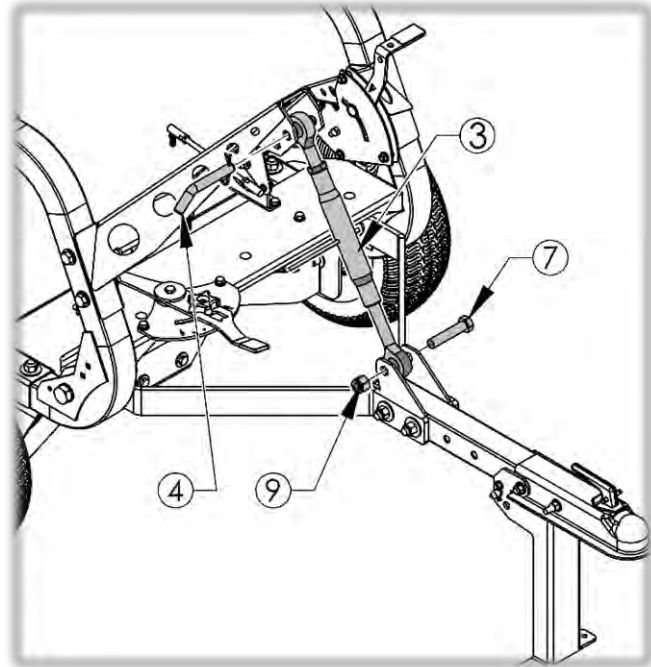
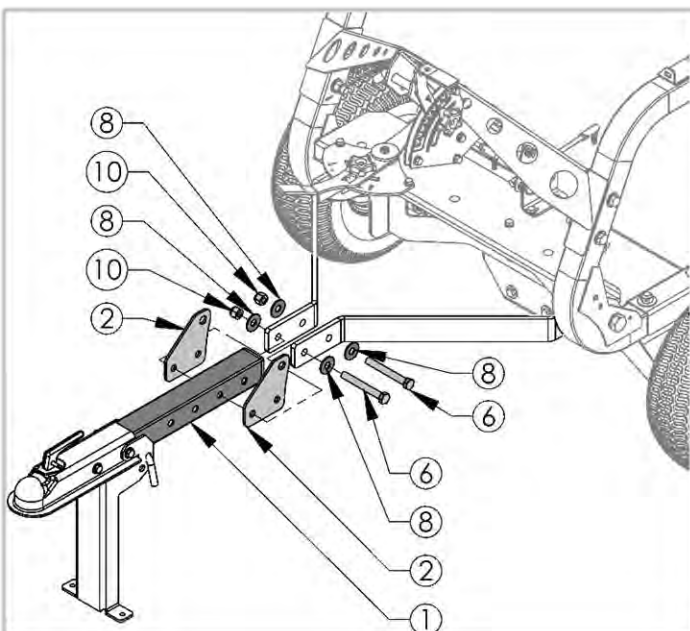

FIGURE 10.2
FIGURE 10.3
5. Place the Hitch Bar (1) in between the Top Link Brackets (2) and Hitch arms as Shown in **FIGURE 10.2**. The Plates (2) go in between the hitch arms and the Hitch Tube. See **FIGURE 10.3** for an assembled hitch image if needed.
6. Next using one 5/8"-11 Bolt (7) & one 5/8"-11 Nylon Lock Nut (9), assemble the bottom section of the top link (3) between the top link Brackets previously installed per **Figure 10.2**. Tighten until at least one thread protrudes from the backside of the Nylon Nut.
7. Lastly connect the Top Link to the top of the Spreader Frame using the Removable 1/2" Pin (4) and hair pin.